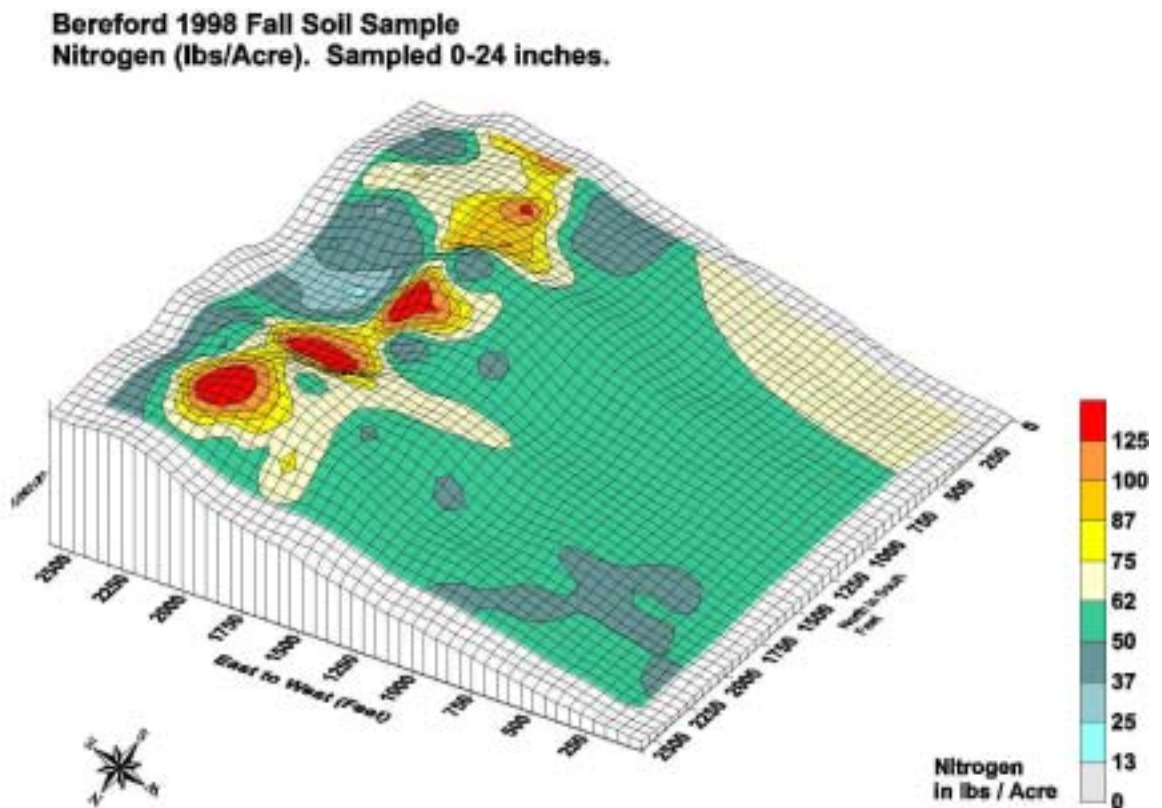

Figure 1. Map showing soil nitrogen in lbs / acre over a 160 acre field.
Wheat producers in the northern Great Plains market grain under a quality payment system that provides economic incentives for optimizing grain protein. Protein concentration in grain is greatly influenced by the level of nitrogen (N) and water stress. Many fields show significant spatial variability in N fertility (Figure 1) and in available water. Plant available water is generally highest in footslope (lower elevation) areas and lowest in summit areas (higher elevation). To maintain high protein contents, the amount of N is directly related to available water.